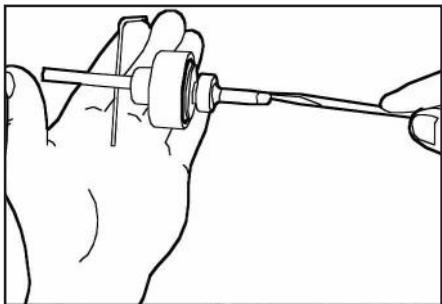

Figure 19
8. Put 7/64" Allen wrench through the hole in the upper poppet stem. (Fig.19)
9. Use a flat blade screwdriver to unscrew the lower poppet stem. (Fig.19)
15. PO4-6S/8S: Use a flat blade screwdriver to unscrew the lower poppet stem. (Fig.19)